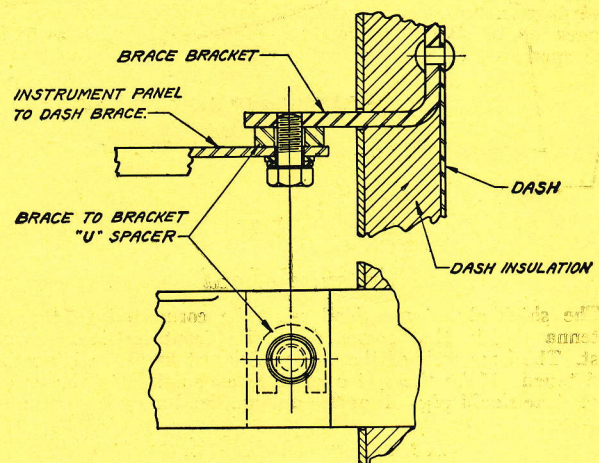

FIGURE 3
4. Loosen the bolt on the right-hand bracket at the dash to which is attached the instrument board reinforcing brace. Slip the "U" shim (furnished in the accessory kit) between the bracket and the brace and then tighten the bolt. (See Figure 3).
5. Place the speaker on the instrument board brace face down with the tone control to the right and securely fasten with the three (3) $\frac{1}{4}$ " No. 20 bolts, nuts and lockwashers.